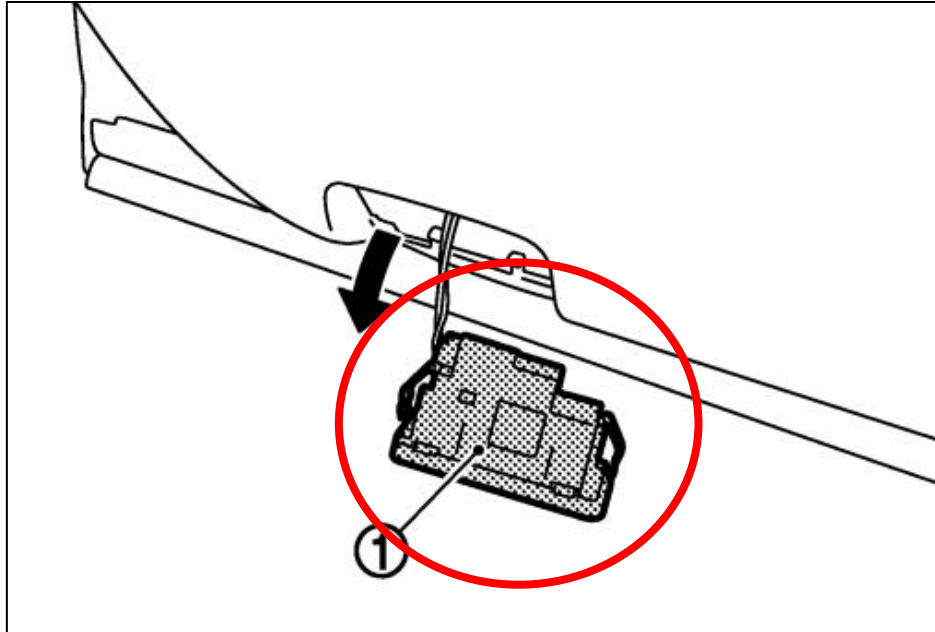

Figure 59
6. Disconnect the Step Lamp on the bottom of the Door Panel. *Figure 59.*